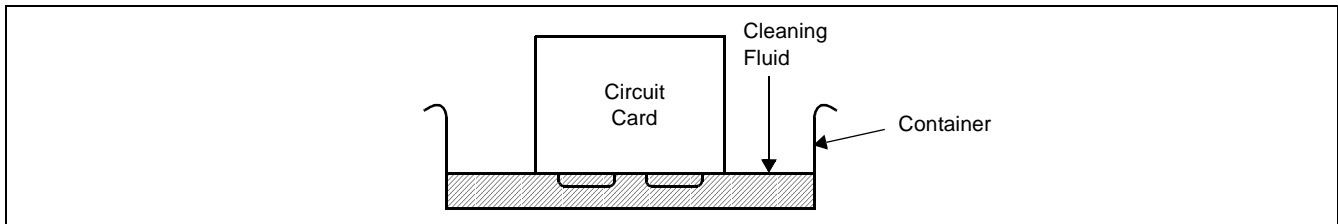

Figure 2-22 How to Clean the Connector Portion
- (4) How to clean the connector portion (gold-plated terminal):
- (a) Dip the gold-plated terminal portion in the cleaning fluid for 3 to 5 seconds (only PA-XX type circuit card), as shown in Figure 2-22.